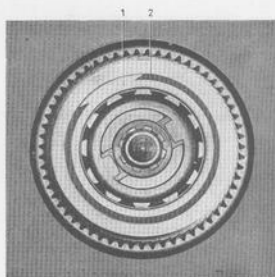

Fig. 4-65. Fitting oil thrower
6. Fit the thrust washer and then the uni-directional clutch in position on the output shaft, see Fig. 4-64. Fit the oil thrower and install the circlip, see Fig. 4-65.